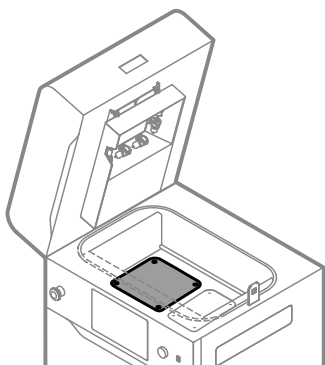

Fig. 13.48 Put on the Feed Bed cover.
22. Put on the Feed Bed cover (fig. 13.48).